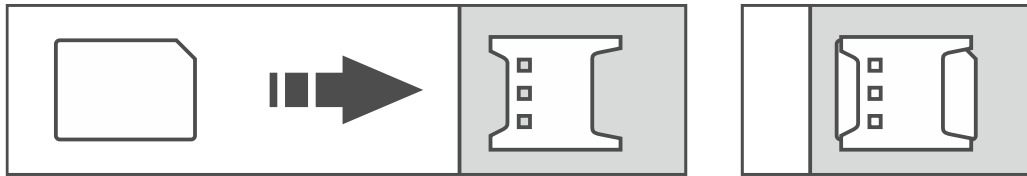

Fig. 8. Installing the nano-SIM card.
3. Insert the SIM card / cards into the socket / sockets (Fig. 8).